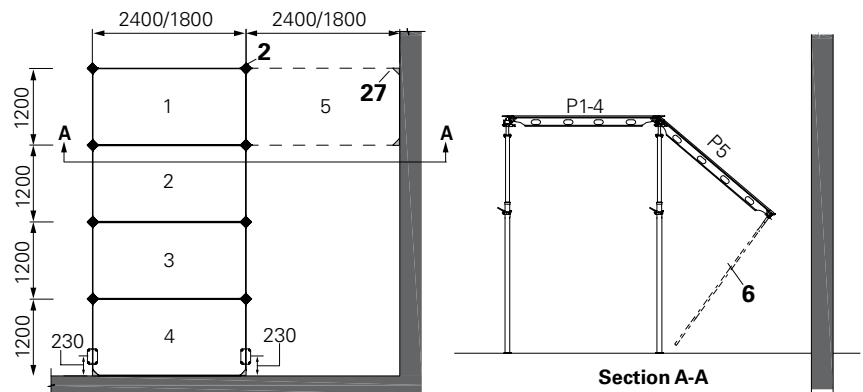
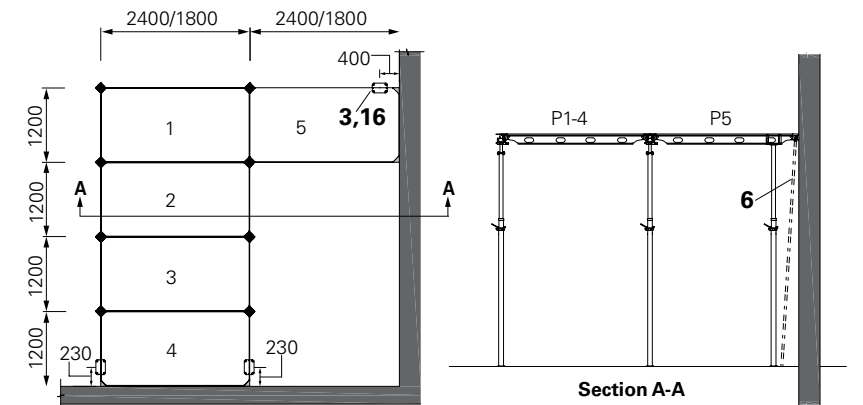
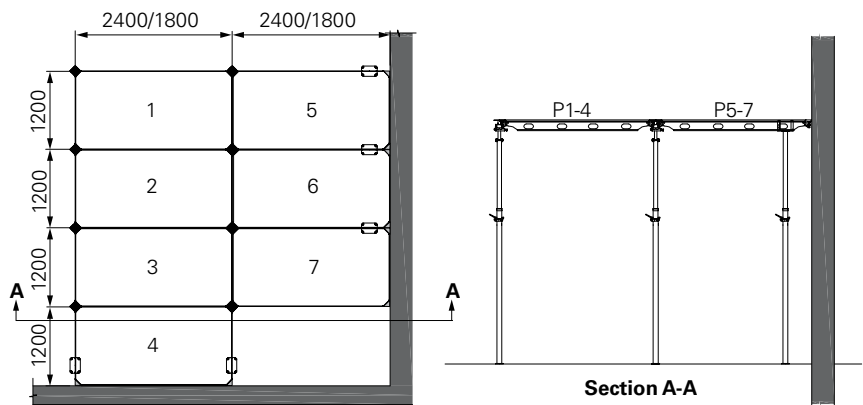
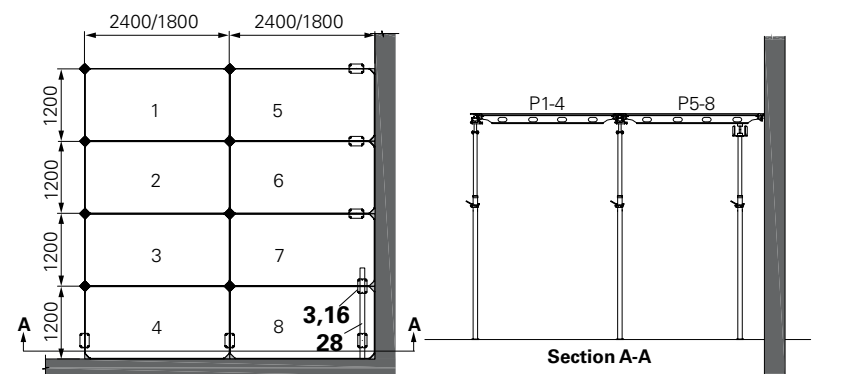

Fig. A6.10
Fig. A6.11
Fig. A6.12
Fig. A6.13
7. Hang the panel 5 along with the corner insert (25) onto the drophead ADH (2) flyplate pin. (Fig. A6.10)
8. Fix the shuttering aid AD (6) at the edge rail B (1.4) to swing up in longer direction. (Fig. A6.10)
9. Swing the panel 5 along with corner insert (25) upwards using the shuttering aid AD (6) and keep it as a temporary support.
10. Support the panel 5 at one end (longer direction) with prop (3) and crosshead ADC (16). (Fig. A6.11)
11. Once the prop support is set into position, remove the shuttering aid AD (6).
12. Repeat the steps 7-11 to install the panel 6 and panel 7. (Fig. A6.12)
13. Place the panel 8 along with corner insert (25) from the top.
14. Place the girder VT20 (28) with crosshead ADC (16) and prop (3) in the shorter direction of panel 8. (Fig. A6.13)